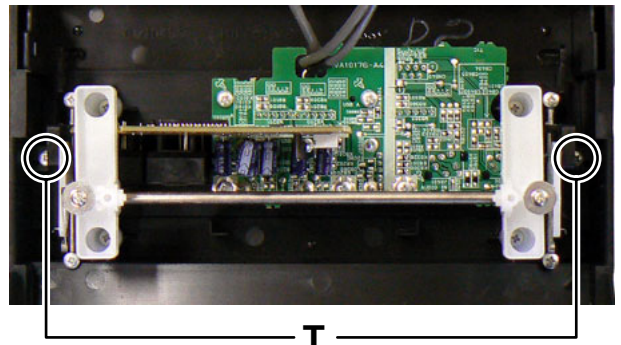

Fig.19
3.1.11 Removing the Mic board and USB board (See Fig.19, 20 and 21)
- (1) Remove the two screws **T** attaching the Slide door. (See Fig.19)